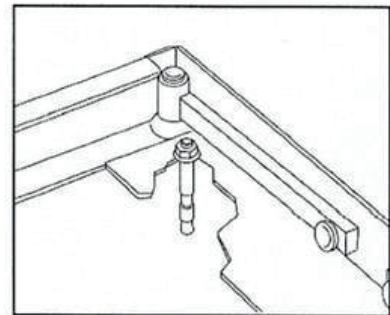

Fig. 4: Lifting gear attachment
2. Prepare the M16 x 120 mm diameter anchor bolts by installing washers and nuts on the fixing bolts. (See Fig.4) Insert the assembled fixing through the mounting hole into the concrete until the washer is aligned with the top surface of the anchor plate.